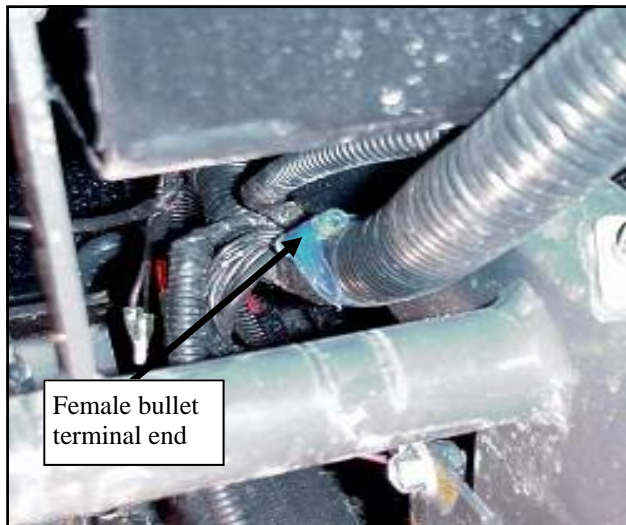

Fig 3.4
- 3.5 Route the male bullet terminal end of the 16 ga. black wire to the vehicle wiring harness located under the seat and outside of the driver's side frame rail and connect it to the first of the three open female bullet terminal ends in the vehicle wiring harness. The female bullet terminals are usually covered in blue tape. (This should be a key controlled connection) See Fig 3.4